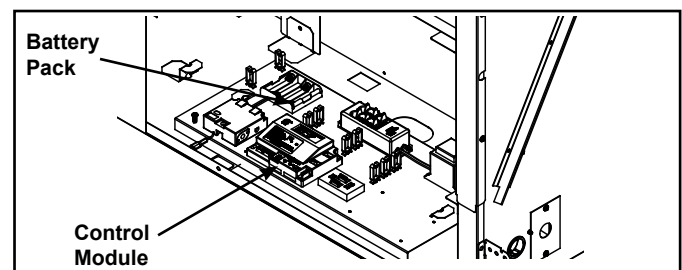

Figure 3.7 Battery Tray Location
2. Locate the battery tray and insert four AA cell batteries. See Figure 3.7. Battery polarity must be correct or module damage will occur. A complete wiring diagram is included in the electrical section of the appliance installation manual.